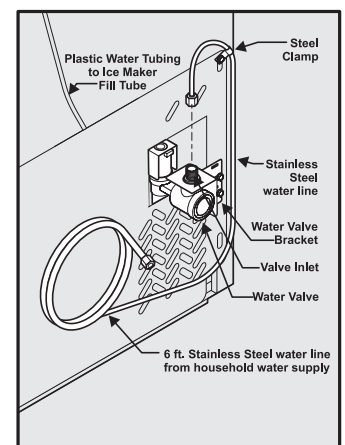

Figure 2
5. **If you use stainless steel tubing** - The nut and ferrule are already assembled on the tubing. Slide compression nut onto valve inlet and finger tighten compression nut onto valve. Tighten another half turn with a wrench; DO NOT over tighten. See Figure 2.